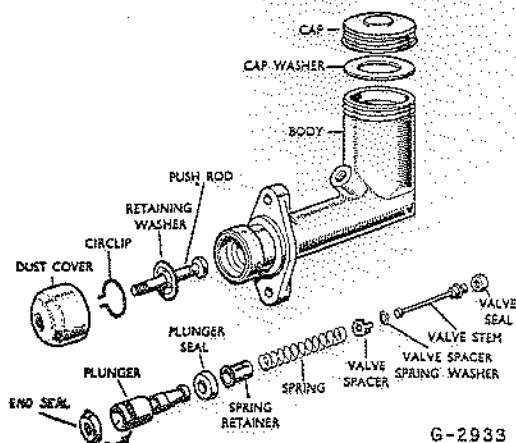

Fig. 13 - Master cylinder group
The fluid level in the master cylinder reservoir must be checked periodically. Do not overfill but maintain level approximately 1/2" from the top of the filler neck, shown in Fig. 13.
**DISMANTLING MASTER CYLINDER (Refer Fig. 13)**
Replace the valve seal so that the flat side is correctly seated on the valve head. The spring washer should then be located on the under side of valve head being held in position by the valve spacer the legs of which face towards the valve seal. Replace the plunger return spring centrally on the spacer, insert the spring retainer into the spring and depress until the valve stem engages through the elongated hole of spring retainer making sure the stem is correctly located in the centre of it. Check that the spring is still central on the spacer. Refit new plunger seal on to the plunger with flat of seal seated against the face of plunger. Insert the reduced end of plunger into the spring retainer until the retainer engages under the shoulder of the plunger. Press home the retainer. Place end seal in its groove on the plunger as in Fig. 13.